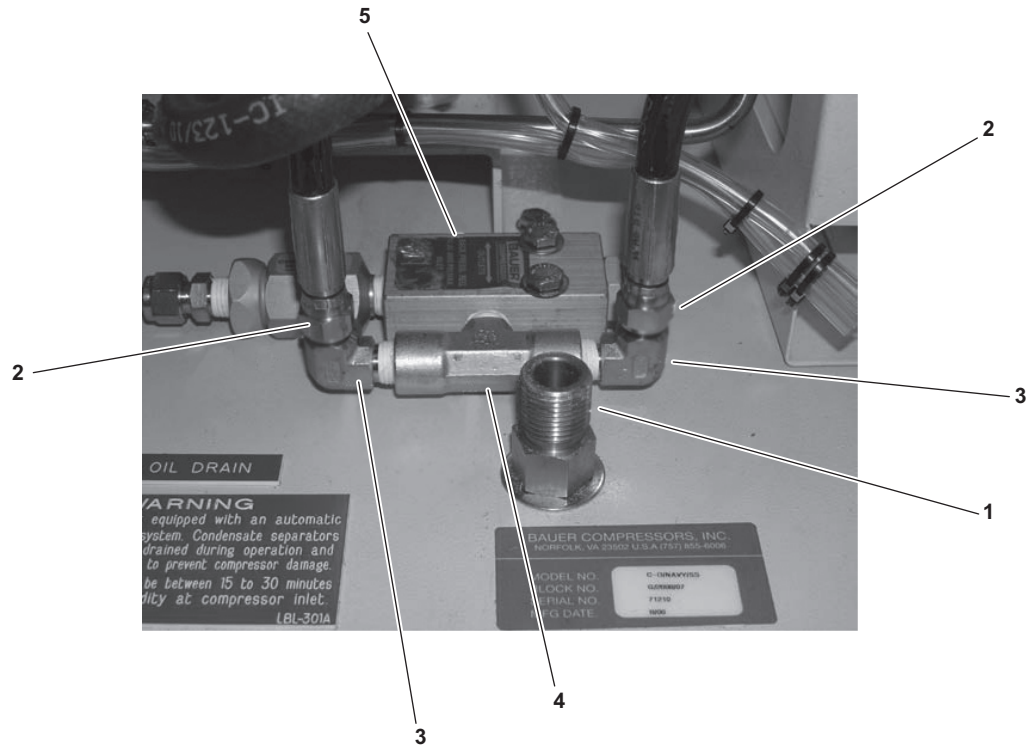

Figure 6-7. E-BAC/SS Fill Hose Connections
- (1) Remove the CGA fittings on the fill hoses from the stowage couplings (figure 6-7, item 1).
- (2) Use a 5/8 inch wrench on the fill hose connections (figure 6-7, item 2) to loosen (CCW) and disconnect them from the elbow fittings (figure 6-7, item 3) on the tee (figure 6-7, item 4) connected to the pressure maintaining valve (figure 6-7, item 5).
- (1) Place the fill hose connections (figure 6-7, item 2) onto the elbow fitting (figure 6-7, item 3) and tighten by hand, turning CW.
- (2) Use a 5/8 inch wrench on the fill hose connections (figure 6-7, item 2) to tighten (CW) them until snug.
- (3) Coil the hoses and install the CGA fitting of the fill hoses onto the stowage couplings (figure 6-7, item 1) carefully, taking care not to damage the threads.